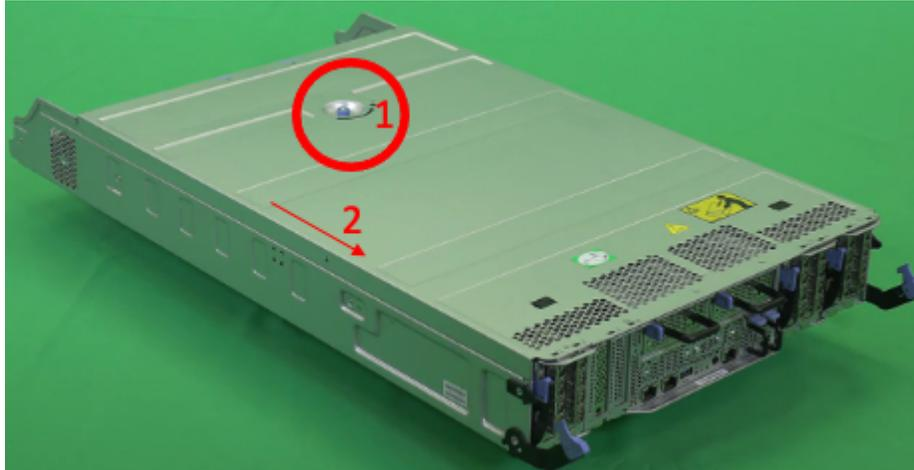

Figure 80. Removing the node canister cover
3. Slide the cover of the node canister towards the handles and then lift the cover off of the node canister, see Figure 80 on page 135.